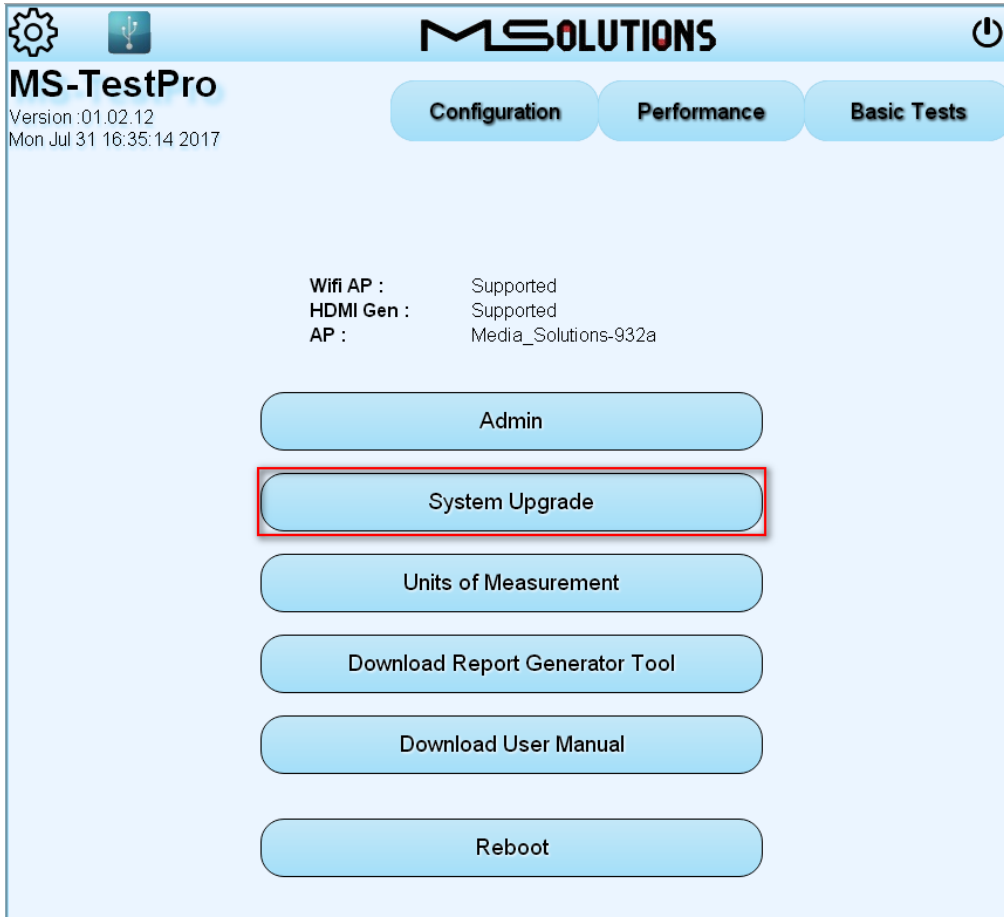

Figure 62: Upgrading the MS-TestPro System
3. Tap on the **System Upgrade** button on the home page (see Figure 62 below).